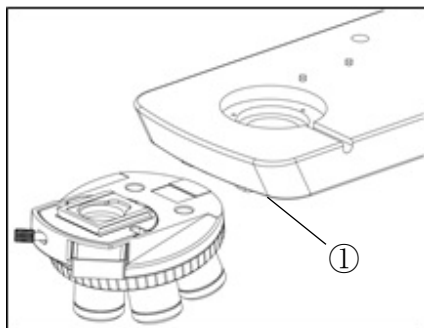

Fig. 6
4.2.4. Installing the Nosepiece (Fig. 6)